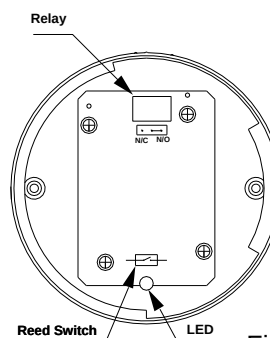

Figure 3.
- (1) Remove the screws from under the connections label on the back of the detector head
- (2) Remove the front cover to expose the PCB.
- (3) Remove the jumper above the relay as indicated in fig 3.
- (4) Place on the required setting NO or NC
- (5) Carefully replace the cover.
- (6) Refit the screws